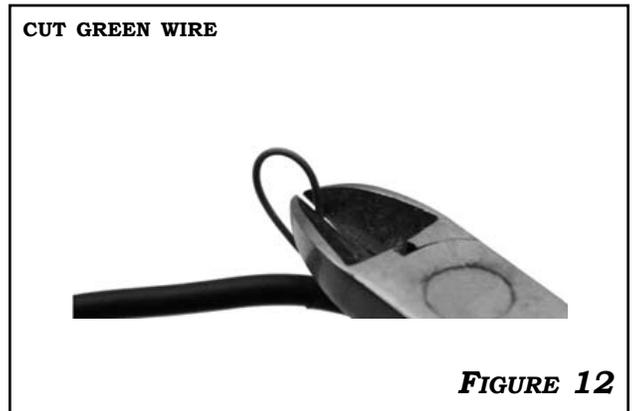

FIGURE 12
2. CUT THE GREEN WIRE AND ISOLATE BOTH HALVES OF THE WIRE TO DISABLE THE GRIDLINES OVERLAID ONTO THE VIDEO FEED OF THE CAMERA BY DEFAULT. **FIGURE 12**